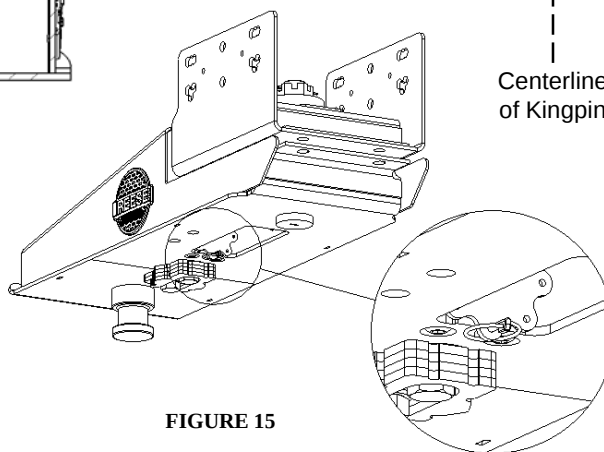

FIGURE 15
8. Once tight (wedge fully inserted into funnel opening), attach pin into handle as shown in Figure 15, to secure wedge in place.